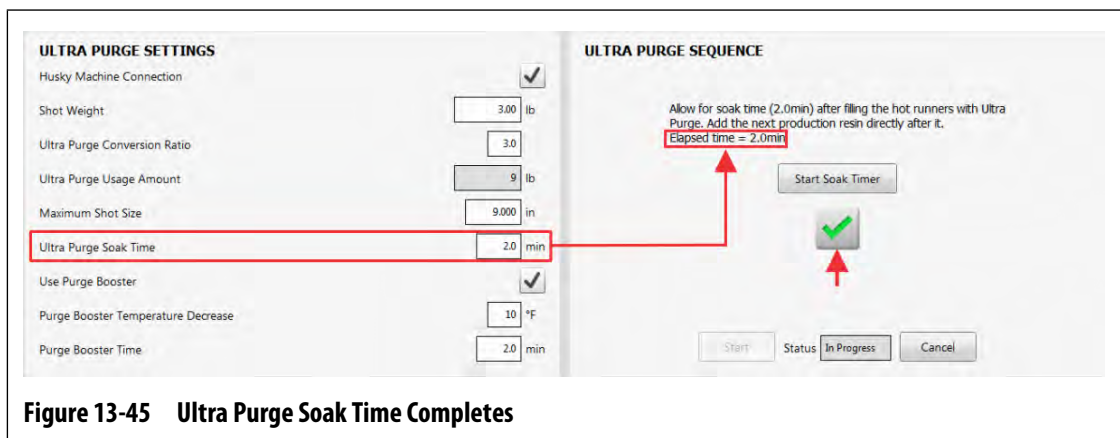

Figure 13-45 Ultra Purge Soak Time Completes
- When the soak time has completed, touch the check mark button to continue (Figure 13-45).